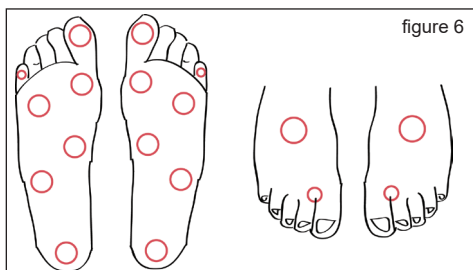

figure 6
**For the foot,** test the sites indicated in (fig. 6).